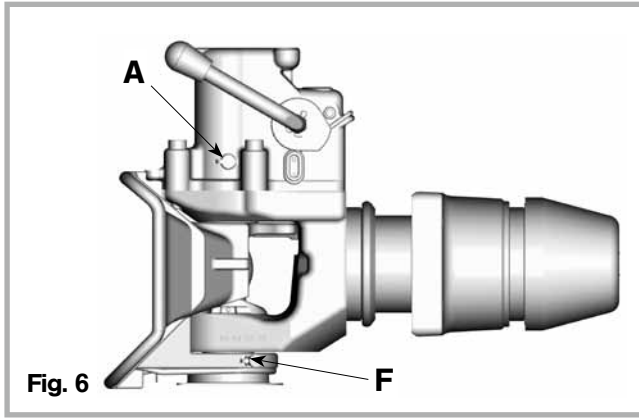

Fig. 6
- Under harsh operating conditions or severe exposure to dirt or water regrease automatic unit (**A**) **when coupling is open** (see fig. 6):
- Lubricate lower funnel bearing (**F** see fig. 6) with EP3 grease.